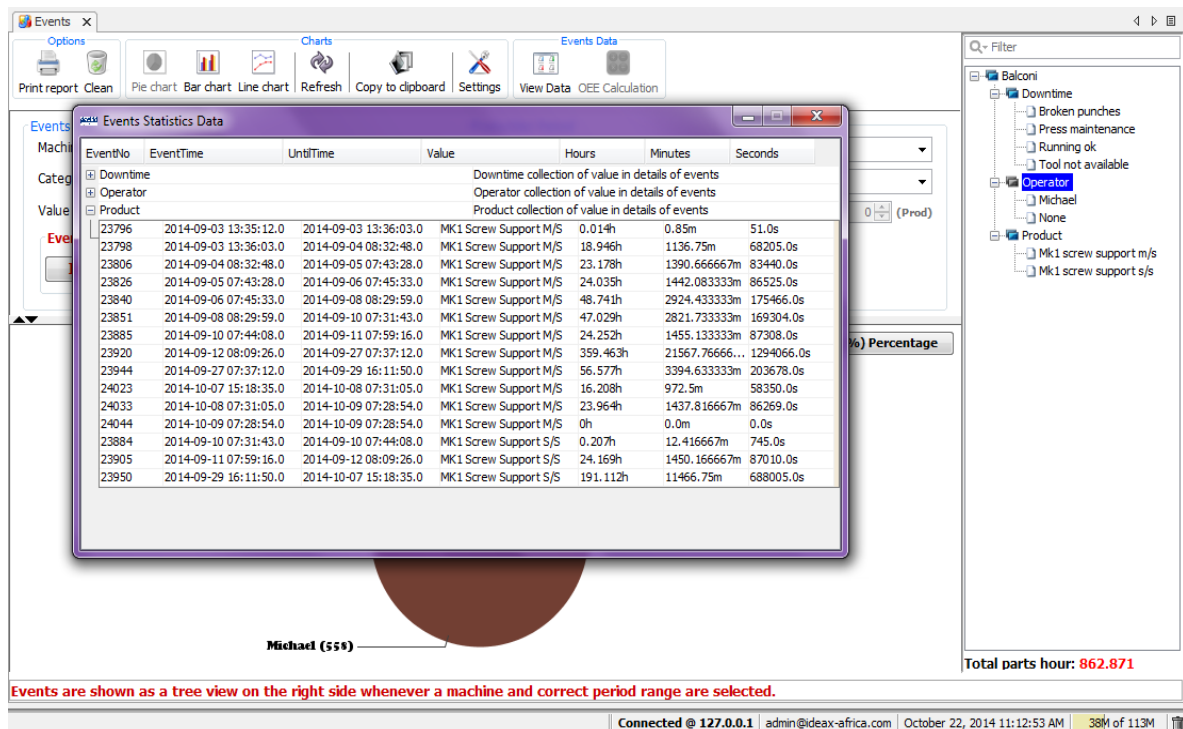

Figure 29: Events chart data
- View Data: clicking on the "View Data" button after a chart is shown, shows (Figure 29) in a table format the events logged in and the time expressed in Hours, Minutes and Seconds.